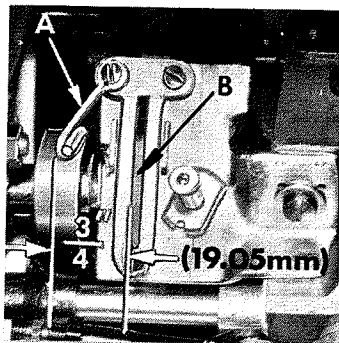

Fig. 15
Set looper thread guide eyelet (A, Fig. 15) so its left outer surface is 3/4 inch (19.05mm) from the left side of looper thread take-up (B), (See Fig. 15).